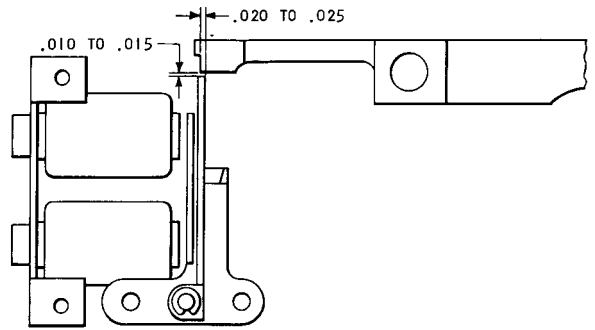

Figure 31. Armature Relatching Clearance and Overlap
5. With the cam follower on the high dwell, position the armature backstop plate horizontally for .020" to .025" overlap of the armature and latch; position vertically for .010" to .015" relatching clearance (Figure 31).